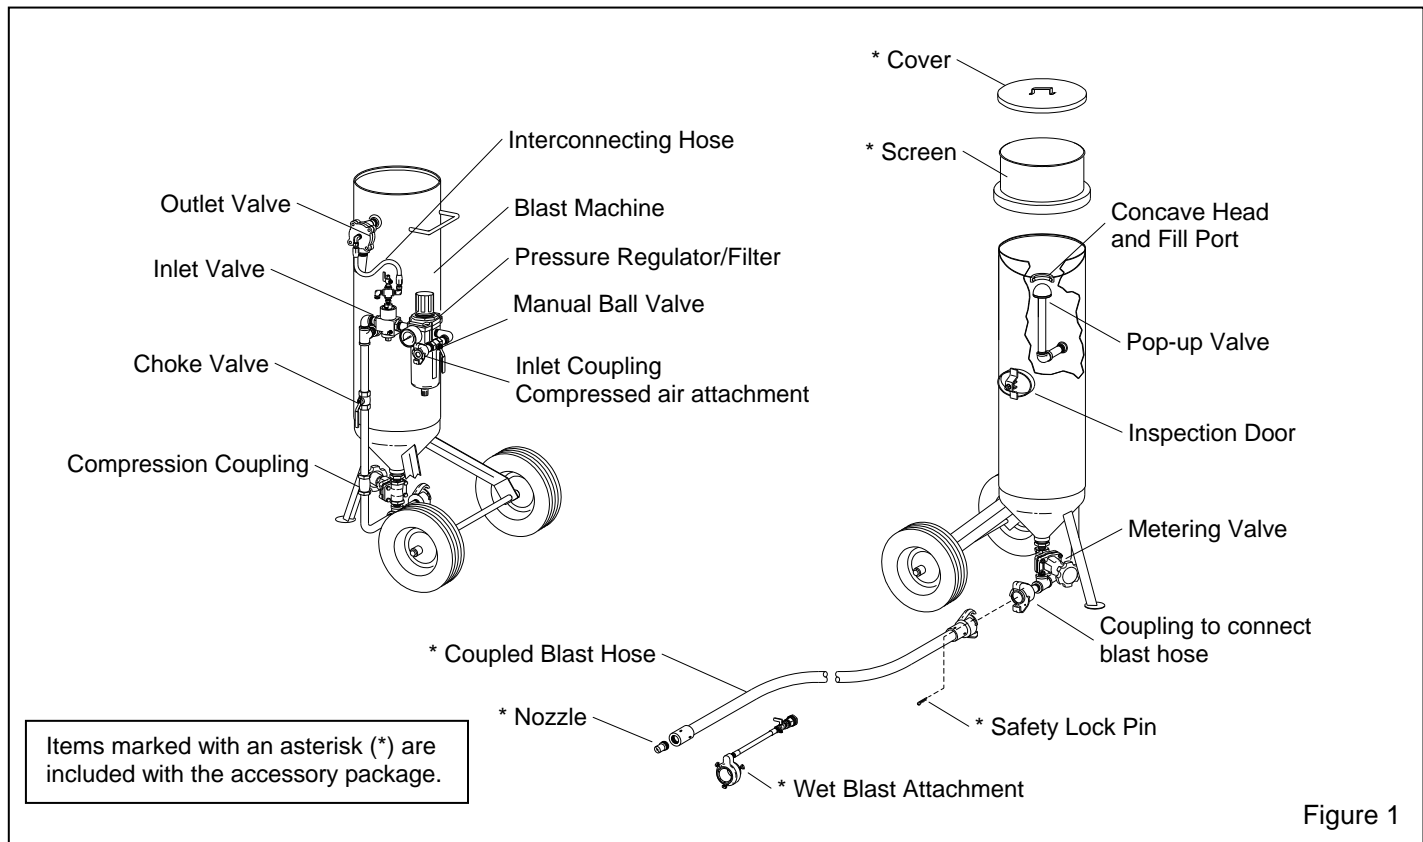

Figure 1
1.3.1 The set-up and primary components of the blast machine and accessory package are shown in Figure 1. The remote controls and connections for the controls are shown in Figure 2.